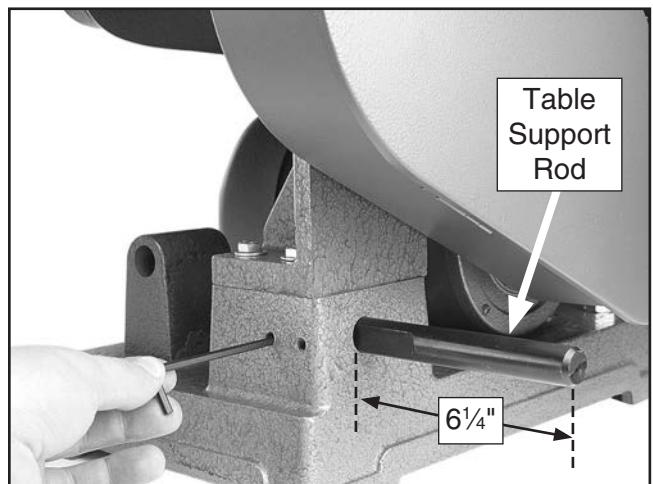

Figure 30. Installing table support rod.
12. Loosen the two set screws on the back of the base, slide the table support rod into the shaft, making sure the flat of the shaft faces the set screws, then tighten the set screws, as shown in **Figure 30**. The rod should protrude about 6¼" from the side of the base.